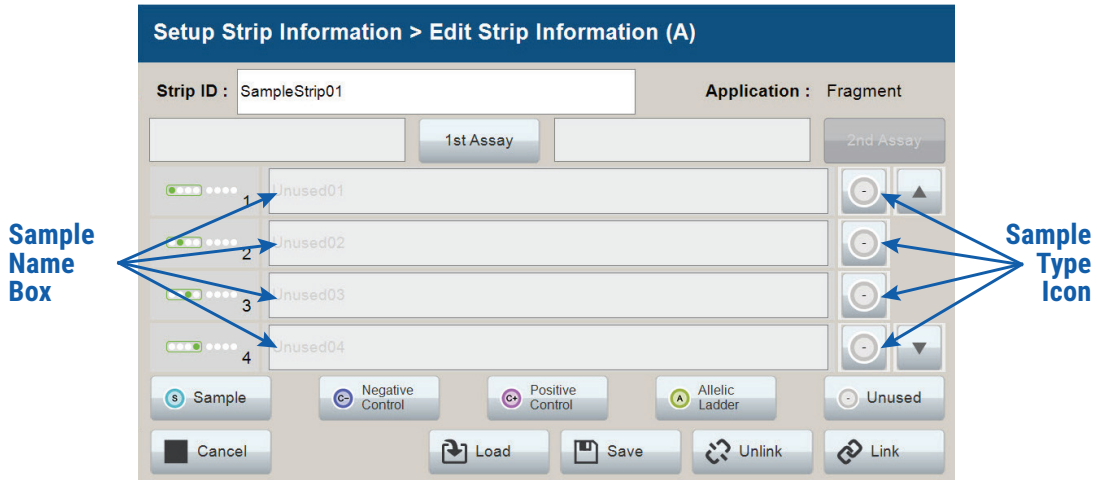
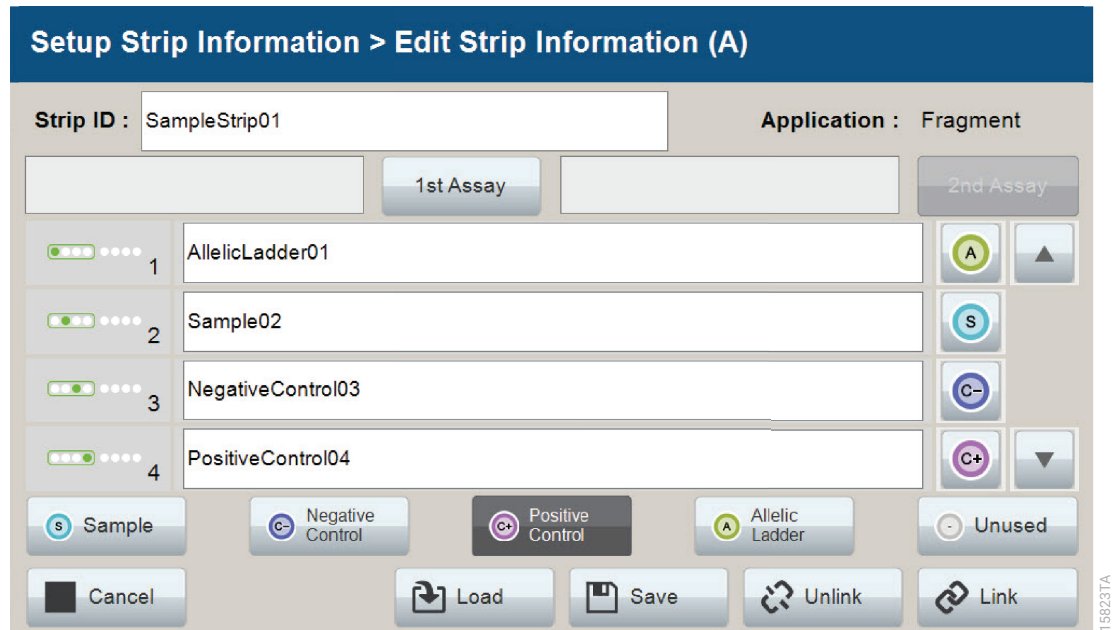
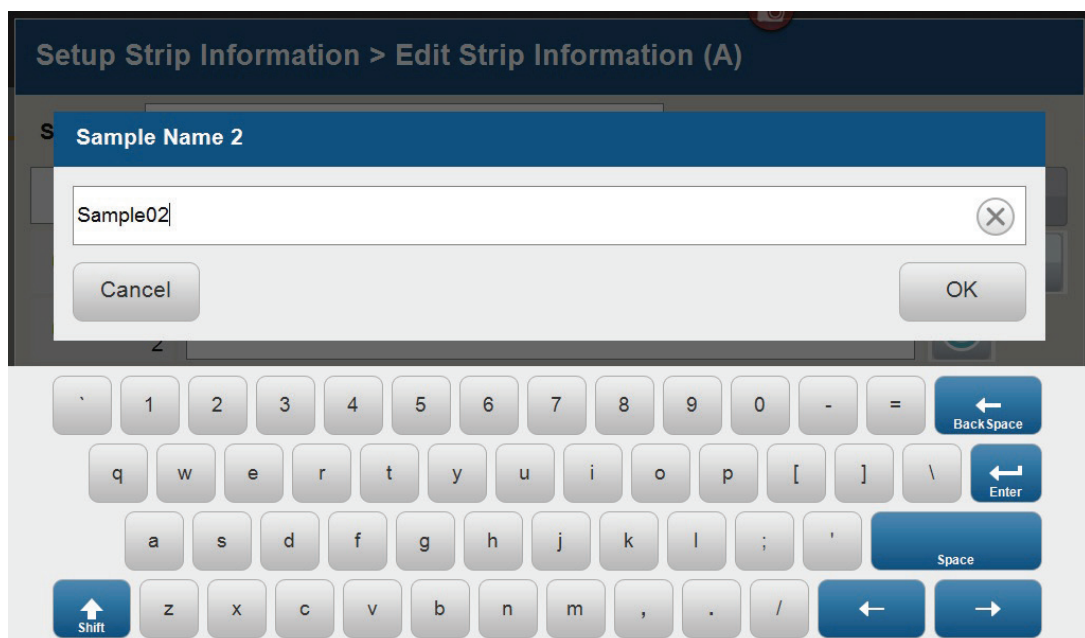
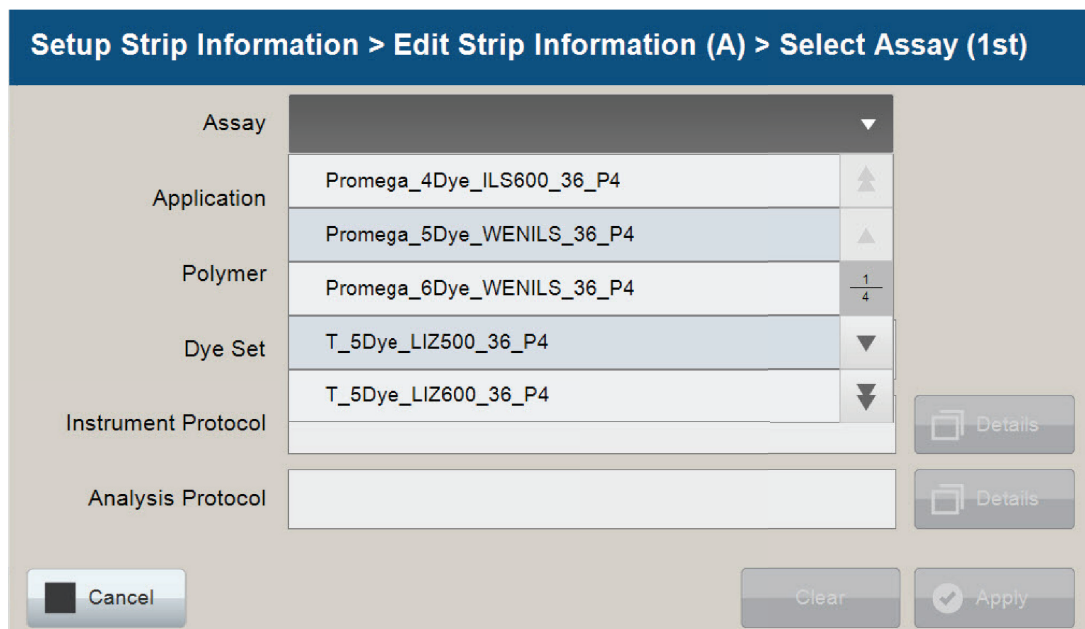

Figure 12. Sample Type and Sample Name on 'Edit Strip Information' screen.
Figure 13. Sample Name Entry on 'Edit Strip Information' screen.
Figure 14. 'Set Sample Name' window.
Figure 15. 'Select Assay' window.
4. Select a sample type on the 'Edit Strip Information' screen (Figure 12). Sample types must be selected for each well position before the Sample Name box becomes active for entry of sample name. Sample types are as follows.
5. To assign a sample type to a well, select the appropriate sample type along the bottom of the 'Edit Strip Information' screen (Figure 12), and then select the **Sample Type** icon to the right of the sample name field for the desired well. This icon will then display the sample type selected for that well (Figure 13).
- Enter a sample name for each well position by selecting the Sample Name box adjacent to the well number on the 'Edit Strip Information' screen (Figure 13). This opens the 'Set Sample Name' window and a keypad will become active on the touch screen (Figure 14). Alternatively, the Sample Name can be entered using a traditional keyboard if one is connected to the Spectrum Compact CE System. Enter the appropriate sample name, and then select **OK** to exit and return to the 'Edit Strip Information' screen.
- The Spectrum Compact Control Software includes preloaded run assays for use with chemistries available from Promega. Refer to the *Spectrum Compact CE System Operating Manual #TMD058* for information on creating or modifying assays. To assign a run assay to an injection set, select **1st Assay** on the right side of the 1st Assay field (Figure 13). This opens the 'Select Assay' window (Figure 15). Select "Promega_5Dye_WENILS_36_P4" from the drop-down list (Figure 15) and then select **Apply**.